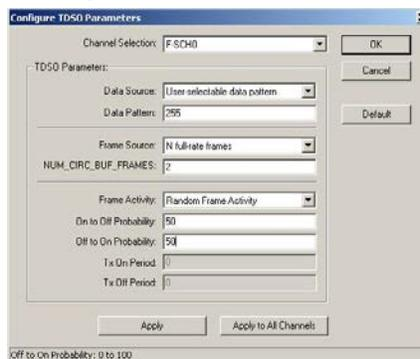

Figure 6-3: TDSO Configuration
3. Click on the Configure TDSO Parameters button to access the TDSO configuration window as shown in Figure 6-3.